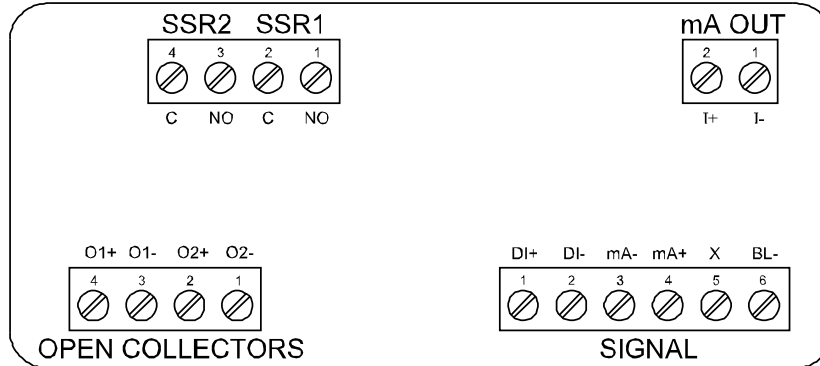

Figure 4. Connector Labeling for Fully Loaded Meter
Signal connections are made to a six-terminal connector labeled SIGNAL on Figure 4. The following figures show a 4-20 mA current loop connected to the meter. The first figure shows the connection without the backlight and the second shows the connection with the backlight (the backlight may also be disabled/enabled in the `5.5.5TEM` menu). The meter is powered by the 4-20 mA current loop. There are no switches or jumpers to set up for the input. Setup and programming is performed through the front panel buttons or PC-based software.
Relay connections are made to a four-terminal connector labeled SSR1 and SSR2 in Figure 4. Each relay's C terminal is common only to the normally open (NO) contact of the corresponding relay.